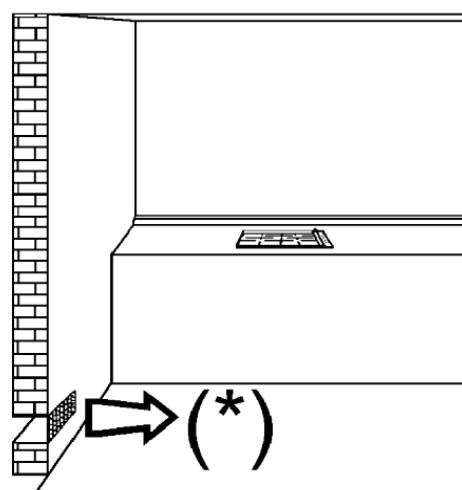
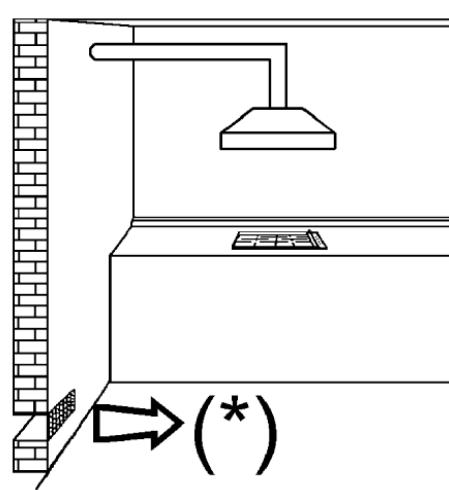

FIG. 3
FIG. 4
- During operation of cooking gas equipment in the room, where it is installed, heat and moisture are generated. Thus it is necessary to ensure proper ventilation of the room, control that openings for natural ventilation (Fig. 3) are not closed and turn on mechanical device for ventilation (cooker hood or electric fan Fig. 4 and Fig. 5).
Natural air access shall be provided directly through constant openings made in the walls of the room, which is planned to be ventilated. The specified openings shall come outside and have cross section not less than 100 cm² (refer to Fig. 3). They shall be made so that the possibility of their blocking shall be excluded.
It is necessary to ensure removal of combustion residuals from cooktops by means of cooker hoods, which shall be connected with ventilation ducts, flue funnels or have outlet directly outdoor (refer to Fig. 4). If ventilation duct can't be used providing strict observance of the provisions about ventilation stated in the applicable standards, it is allowed to use a fan, which shall be installed on the window or on the wall with outlet outdoor and which shall be turned on simultaneously with the product (refer to Fig. 5).